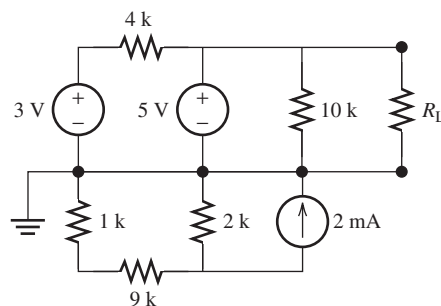

FIGURE P3.72 Circuit for Problem 3.72.
3.72 (H) Using the superposition principle, find the Thévenin equivalence seen by R_L in Figure P3.72.